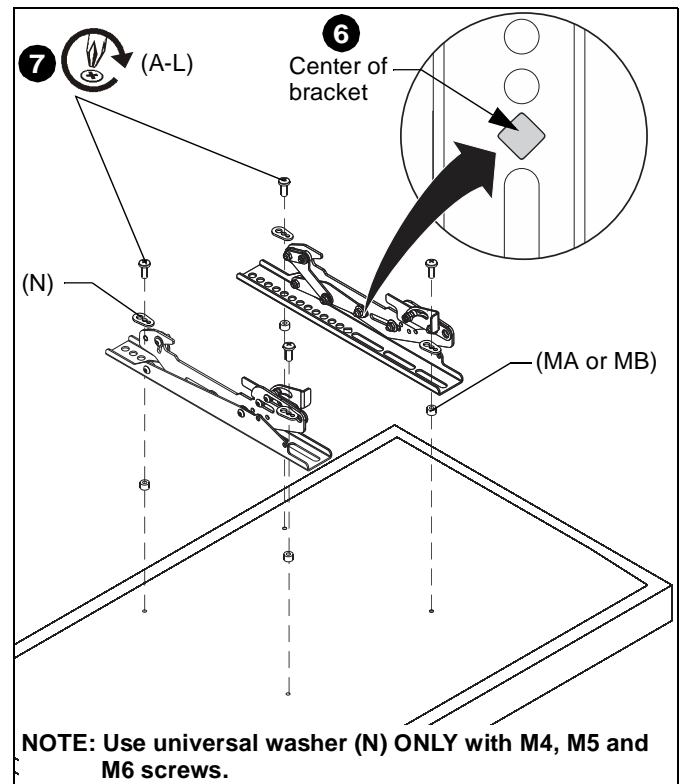

Figure 2
3. Select screw *diameter* by examining hardware (A-L) and comparing with mounting holes on display. (See Figure 2)
5. Select screw *length*: (See Figure 2)
**IMPORTANT ! :** The M8 screws do **NOT** require a washer. Use the universal washer (N) **ONLY** with M4, M5 and M6 screws.
6. Align the center of the interface brackets (R and S) with center of screen. (See Figure 2)
7. Use selected screws (A-L), universal washers (N-if required) and spacers (MA or MB-if required), to connect interface brackets (R and S) to back of display. (See Figure 2)